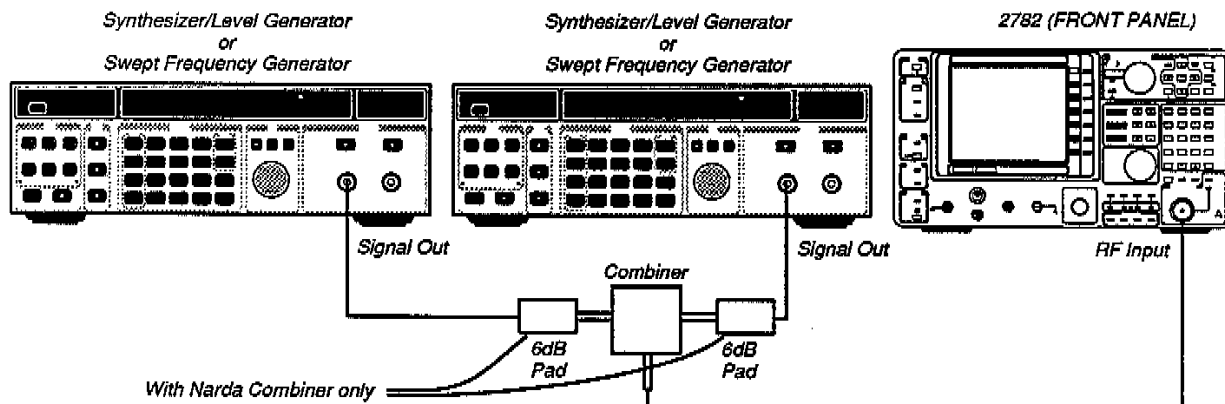

Figure 2-5. Test equipment setup for the Third Order and Second Order Intercept Checks.
- b. Connect the two synthesizer/level generators through the Mini-Circuits 2FSC-2-6 combiner to the 2782 RF INPUT connector (as shown in Figure 2-5). Do not use the 6 dB pads with the Mini-Circuits Combiner.
- b. Connect the two swept-frequency synthesizers through the Mini-Circuit 2FSC-2-5 combiner to the 2782 RF INPUT connector (as shown in Figure 2-5). Do not use the 6 dB pads with the Mini-Circuits Combiner.